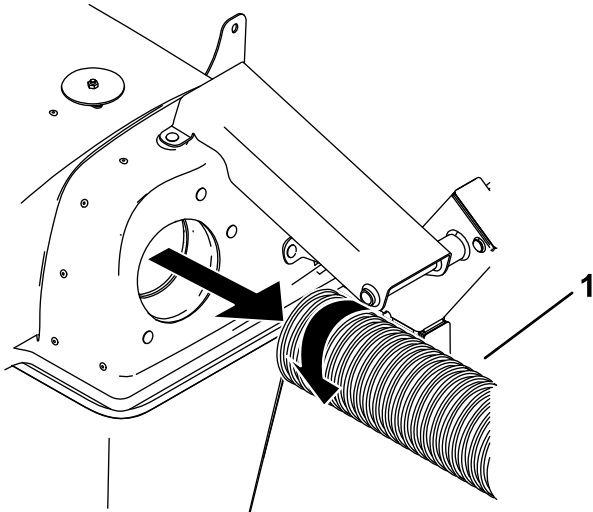

Figure 2
2. Remove the hose from the hood (Figure 2).